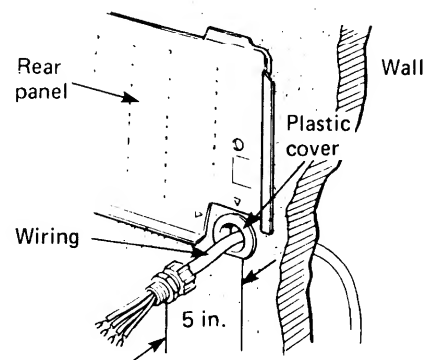

Fig. 14
- Insert the interunit wiring (according to local codes) into through-the-wall PVC pipe. Run the wiring toward indoor side allowing approx. 5 in. from the wall face. Fig. 14